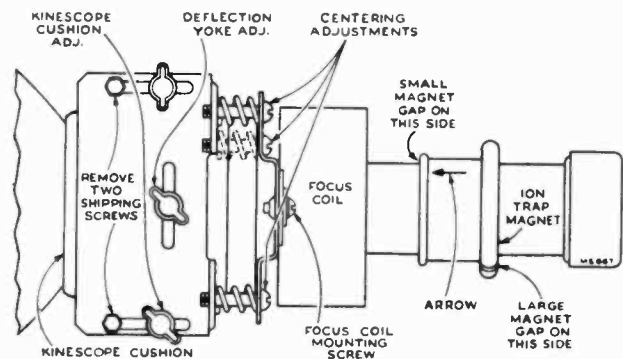

Figure 3—Yoke and Focus Coil Adjustments
Remove the two self-tapping screws from the kinescope cushion slide as shown in Figure 3.
Slip the ion trap magnet assembly over the neck of the kinescope with the large magnet towards the base of the tube and with the arrow on the assembly up as shown in Figure 3.
**CENTERING ADJUSTMENT.**— No electrical centering controls are provided. Centering is obtained by mechanically orienting the focus coil with the three adjustment screws shown in Figure 3. Center the picture on the screen by adjustment of these screws. The focus coil should be concentric around the neck of the kinescope to prevent curvature of the raster.
**FOCUS COIL ADJUSTMENTS.**— If, after making the centering adjustments in the above paragraph, a corner of the picture is shadowed, it will be necessary to loosen the focus coil mounting screws (shown in Figure 3) and change the position of the coil to eliminate the shadow. Recenter the picture by adjustment of the centering screws.